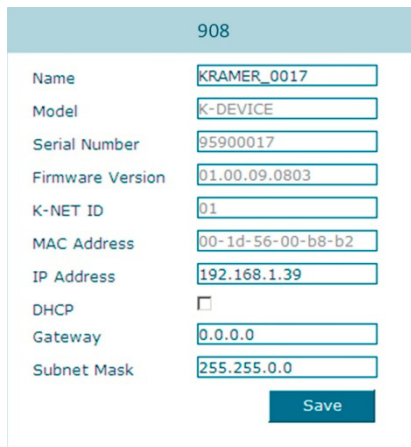

Figure 13: Ethernet Settings
8. To change the Ethernet settings, click the *Settings* tab at the top of the Control Window. The Ethernet settings display (see Figure 13):